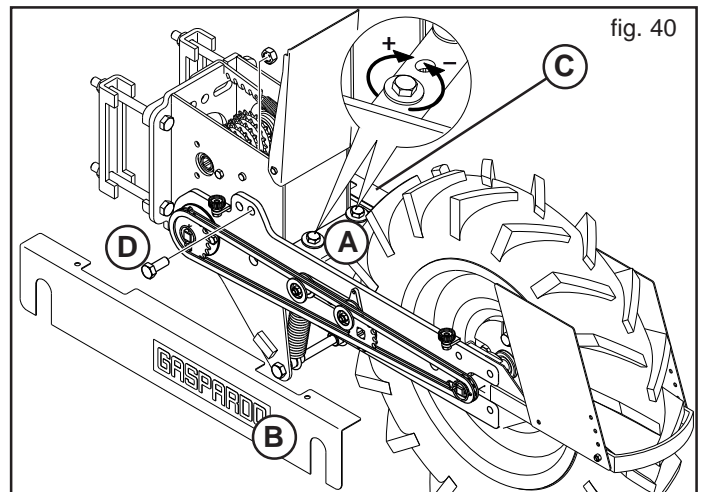

fig. 40
By using the screws (A, Fig. 40) modify pressure on the wheel according to the soil's characteristics.
- 1) Dismantle the casing (B e C, Fig. 40).
- 2) Remove the locking device screws (D).
- 3) Put the casing back together (B e C, Fig. 40).
- 4) Adjust double spring tension by means of the screws (A, Fig. 40) in compliance with the state of the soil.